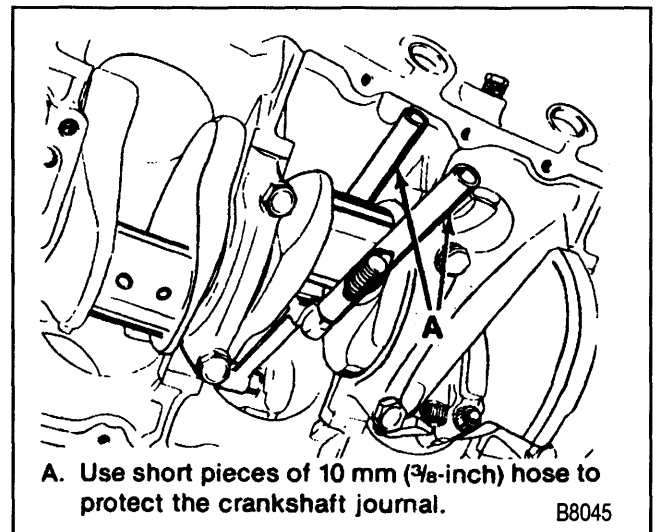

Figure 28—Replacing the Connecting Rod and Piston
Remove or Disconnect (Figure 28)
- A. Attach two short pieces of 10-mm (3/8-inch) hose to the connecting rod bolts (figure 28). This will protect the crankshaft journal during removal.
- A. With the connecting rod cap removed, install two short pieces of 10-mm (3/8-inch) hose onto the connecting rod studs (figure 28).